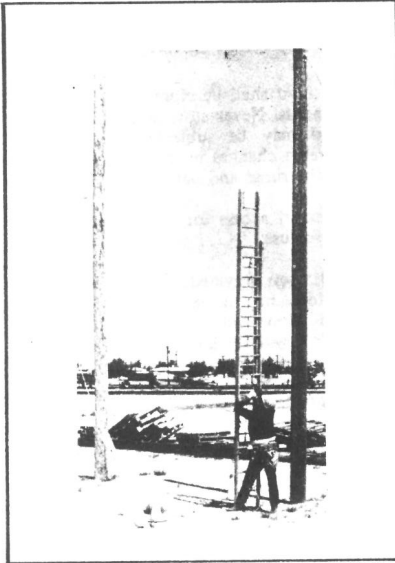

FIGURE 32.
19.01 Stand at the base of the ladder and raise the upper section about 6 inches by means of the ladder rope to release the ladder locks. Allow the upper section to descend slowly by applying the necessary drag on the rope. The drag on the rope should hold the ladder in the balanced position. See Figure 32. Take care to prevent injury to the hand holding the side rail. Do not allow the top section to strike the ground or pavement sharply.